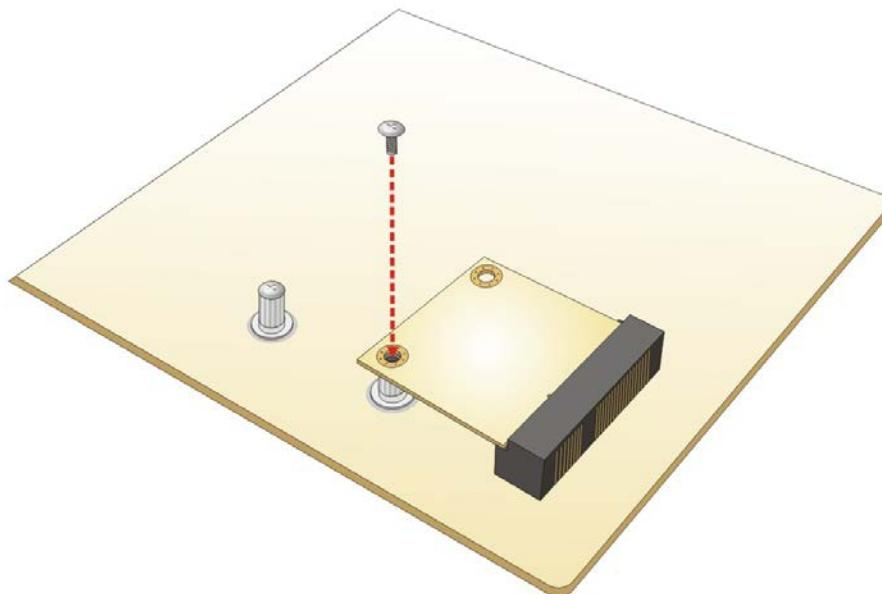

Figure 4-13: Securing the Half-size PCIe Mini Card
**Step 4: Secure the half-size PCIe Mini card.** Secure the half-size PCIe Mini card with the retention screw previously removed (**Figure 4-13**).